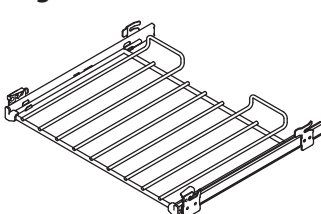

Fig. 2.19
- 2 sets of side supports (**Fig. 2.19**)